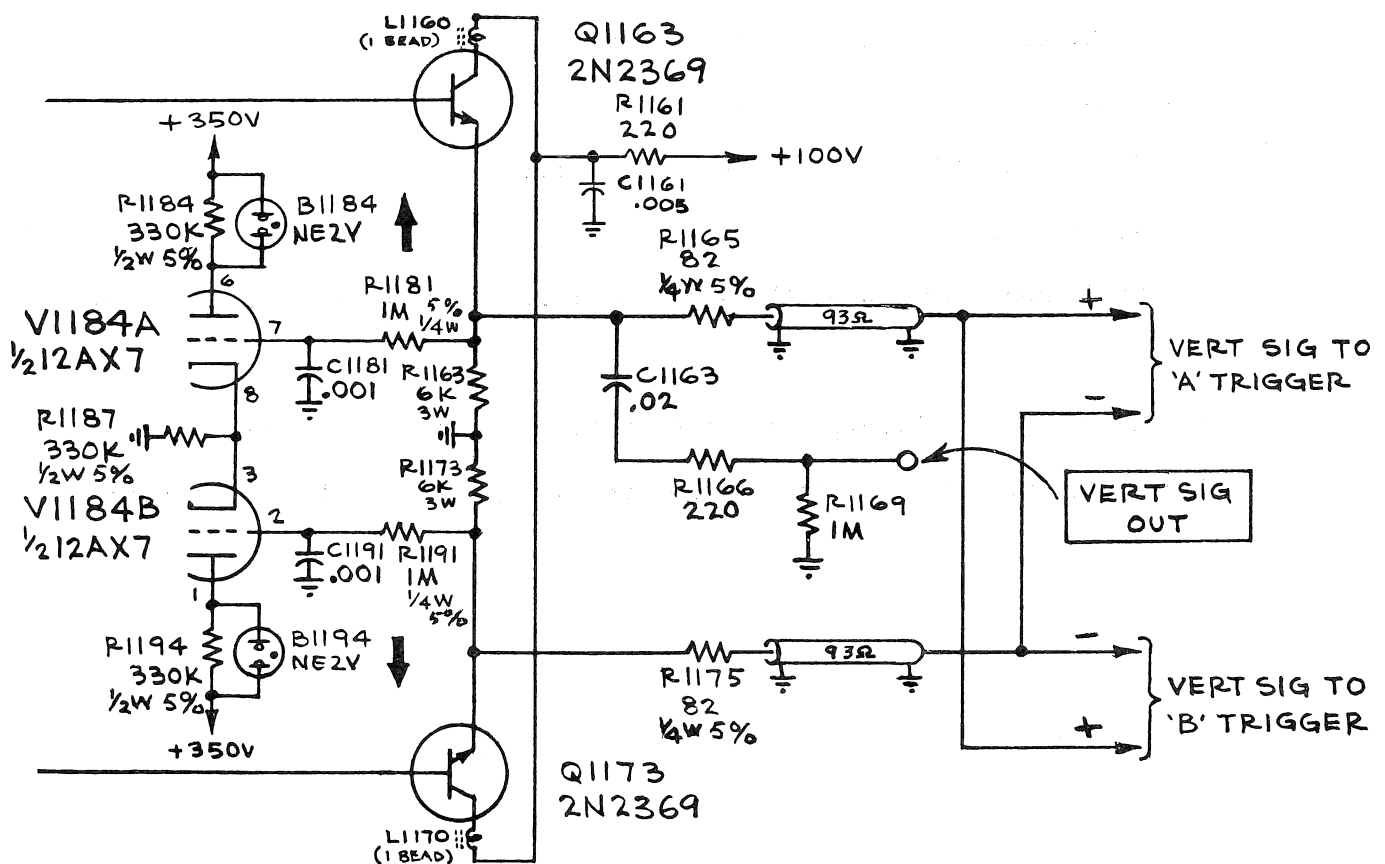

Figure 1-8
8. Trigger takeoff output stage (Q1163 and Q1173) (Fig. 1-8)